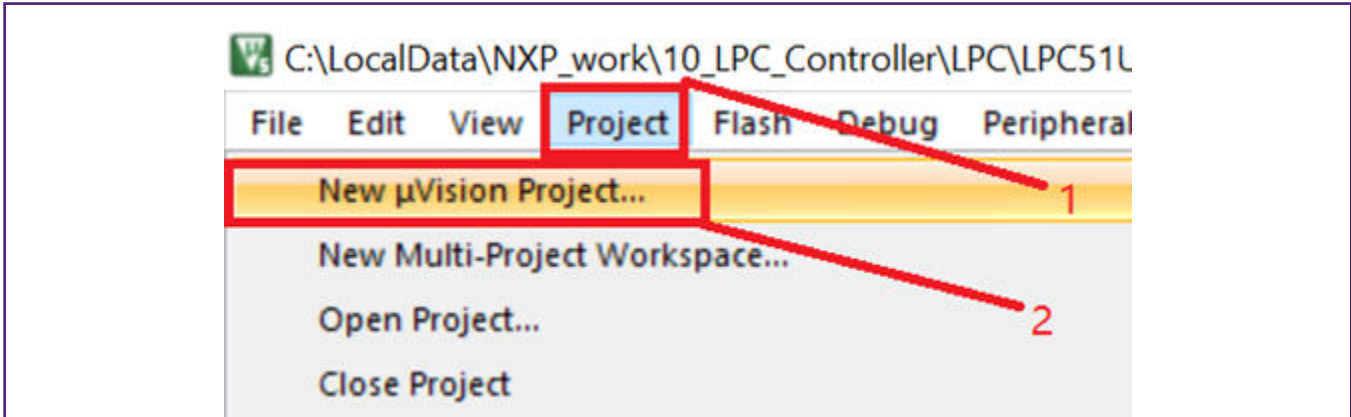
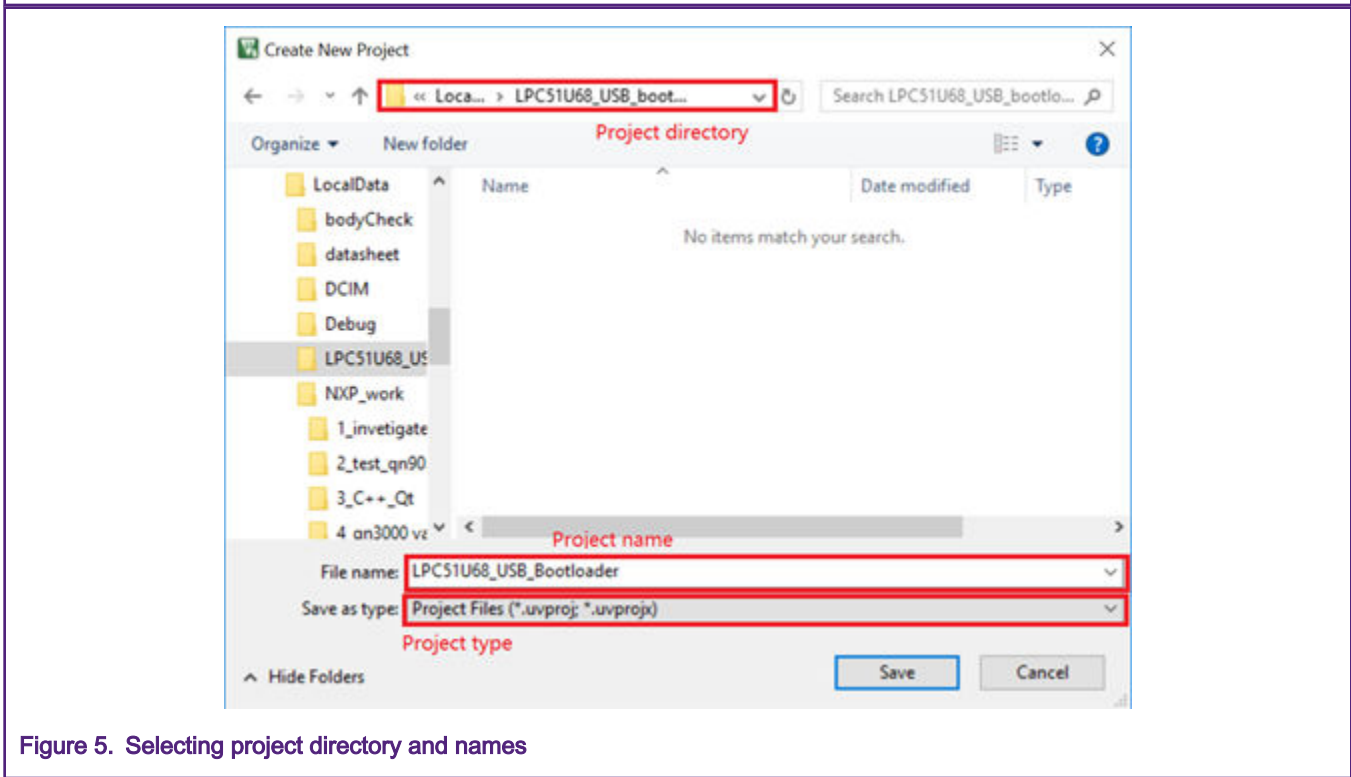

Figure 4. Creating new Keil project
Figure 5. Selecting project directory and names
- Download SDK\_2.6.0\_LPCXpresso51U68 from the official NXP website. This application note uses the Keil IDE to perform USB bootloader porting. Therefore, create a new empty project (as shown in Figure 4) by clicking "Project -> New uVision Project" and selecting the project directory (as shown in Figure 5), assuming that the project directory is *lboards*.